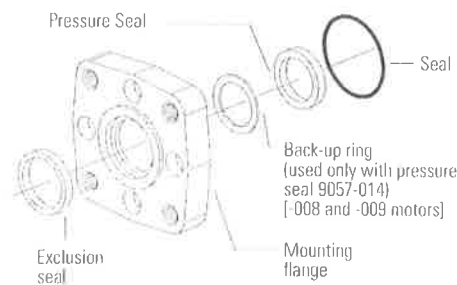
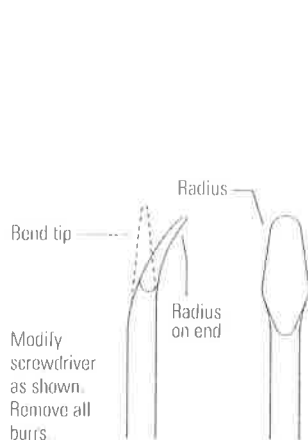

Figure 7
Figure 8
16. Exclusion seal, back-up ring, pressure seal and seal will come off with flange (see Figure 7). Use seal removal tool (shown in Figures 8 and 9) to remove exclusion and pressure seals.